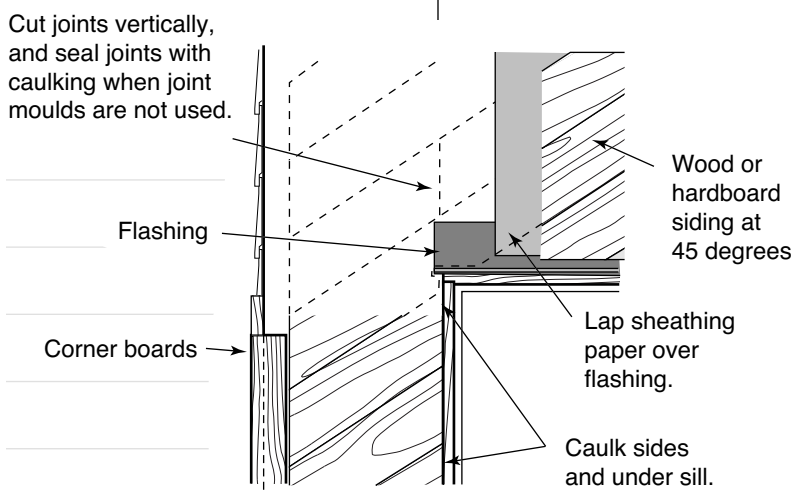

FIGURE 30
- Cut the butt joints of diagonally installed siding so that the joints are vertical (see Figure 30).